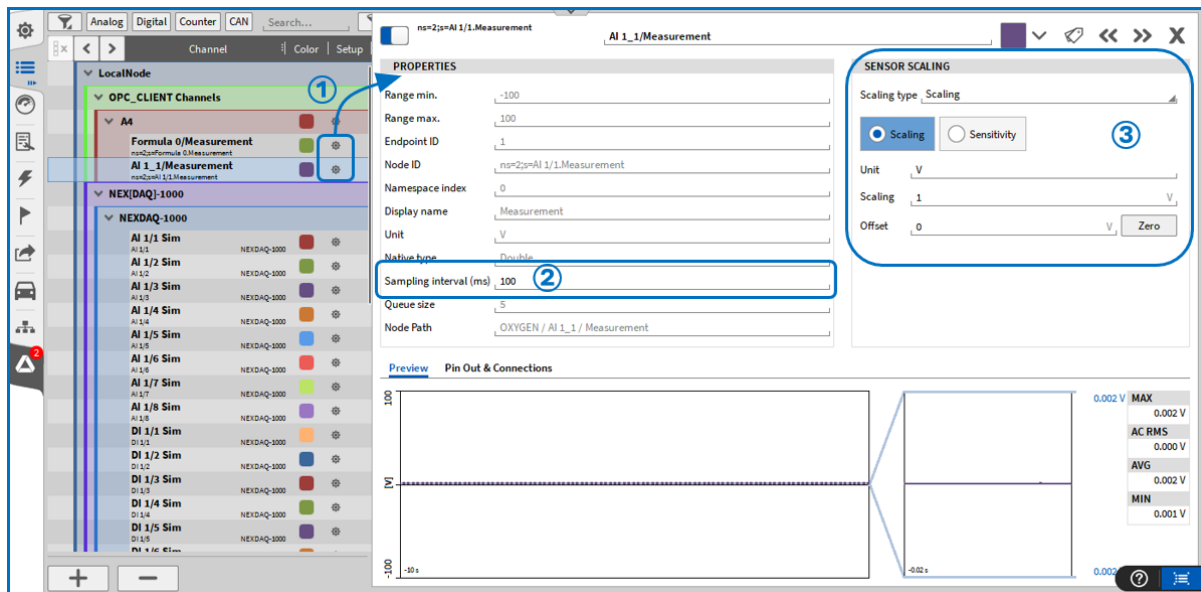

Fig. 5.4: OPC UA Client channel settings
Once selected, channels appear in the OXYGEN channel list under the respective OPC UA Client section. Click the gear icon (See ① in Fig. 5.4) of a channel to edit its properties:
- *Sampling Interval [ms]*: Defines how often the server samples the data (See ② in Fig. 5.4).
- *Scaling*: Individual scaling can be applied to each channel in the scaling section (See ③ in Fig. 5.4).